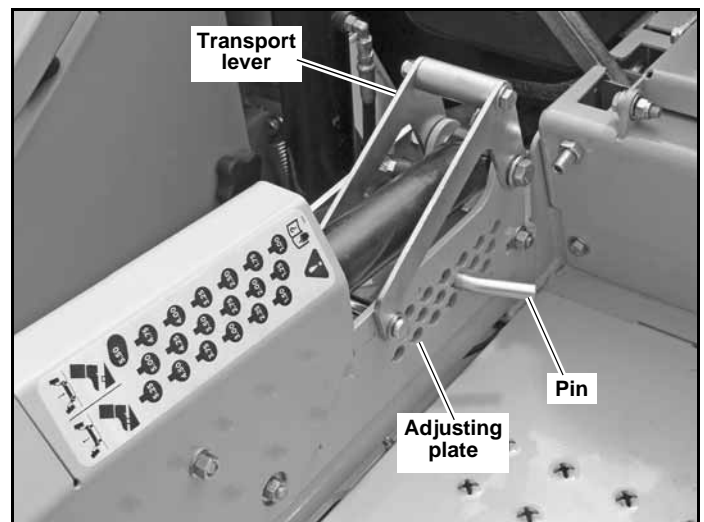

Figure 3-13
1. Using the center deck lift switch raise the center deck until the transport lever is engaged. Figure 3-13
2. Move the pin to the desired cutting height in the center deck's height adjusting plate. Figure 3-13
3. Using the center deck lift switch, raise the center deck and pull on the transport lever to release it. Figure 3-13